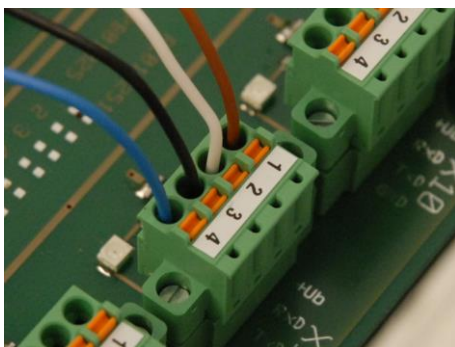

Fig. 50: Connecting a sensor
1. Connect the conductors of the sensors according to Fig. 50. For details refer to the respective terminal diagrams.